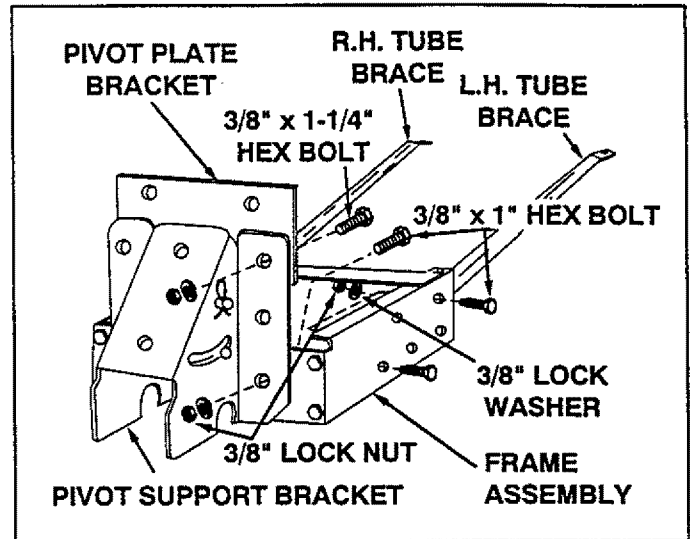

FIGURE 2
- Using the two bottom holes, attach the pivot support bracket to the front of the frame assembly using two 3/8" x 1" hex bolts, lockwashers and lock nuts. See figure 2. **Do not tighten till next step.**
- Using the two top holes assemble the pivot plate bracket to the front (inside) of the frame assembly using two 3/8" x 1-1/4" hex bolts, lockwashers and lock nuts. See figure 2. **Tighten all loose bolts.**
- Attach the left and right hand tube braces on the inside of the left and right hand sides of the frame assembly using four 3/8" x 1" hex bolts, lockwashers and locknuts. Both tube braces should angle up and out. **Do not tighten at this time.** See figure 2.